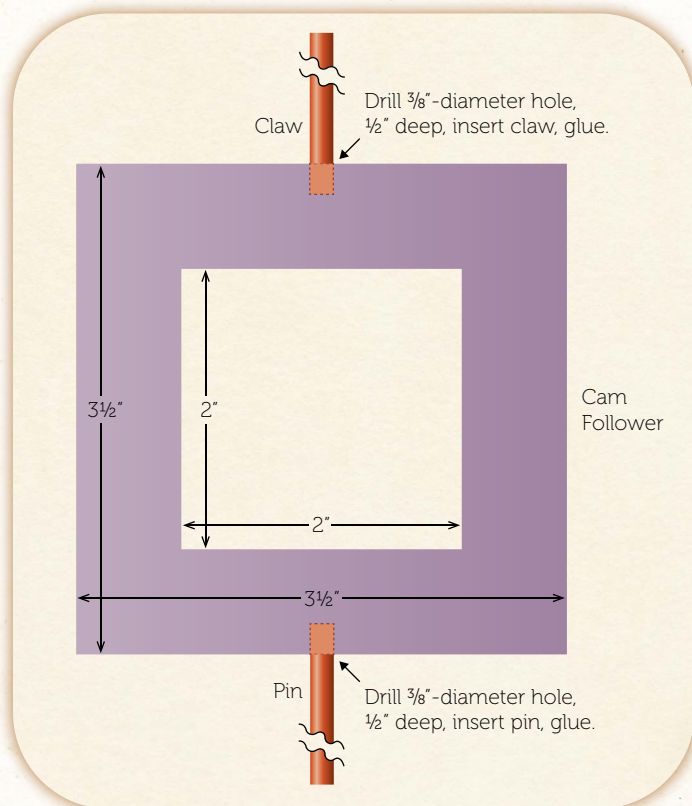

Figure 7.3: Cam follower diagram
1. Use a jigsaw to cut a 2-inch by 2-inch square opening, centered in the $3\frac{1}{2}$ -inch by $3\frac{1}{2}$ -inch by $\frac{3}{8}$ -inch follower piece, as shown in Figure 7.3.
3. To attach the pin and claw to the cam follower, drill two $\frac{3}{8}$ -inch-diameter holes about $\frac{1}{2}$ inch deep in the exact center of the upper and lower surfaces of the cam follower (see Figure 7.3).